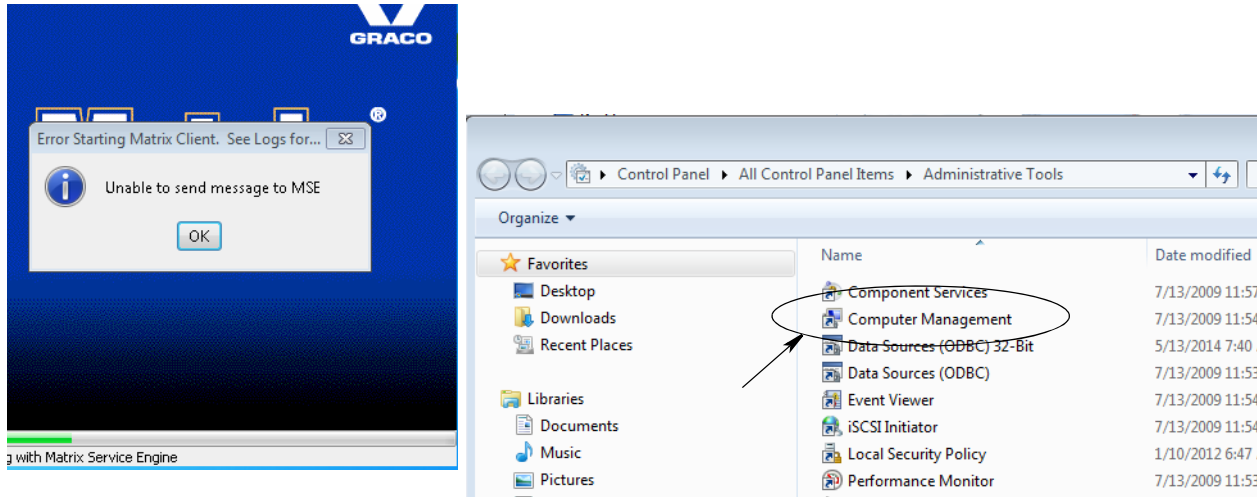

FIG. 209
- Access the control panel and select Administrative Tools. Double click on the Computer Management link (Fig. 209).